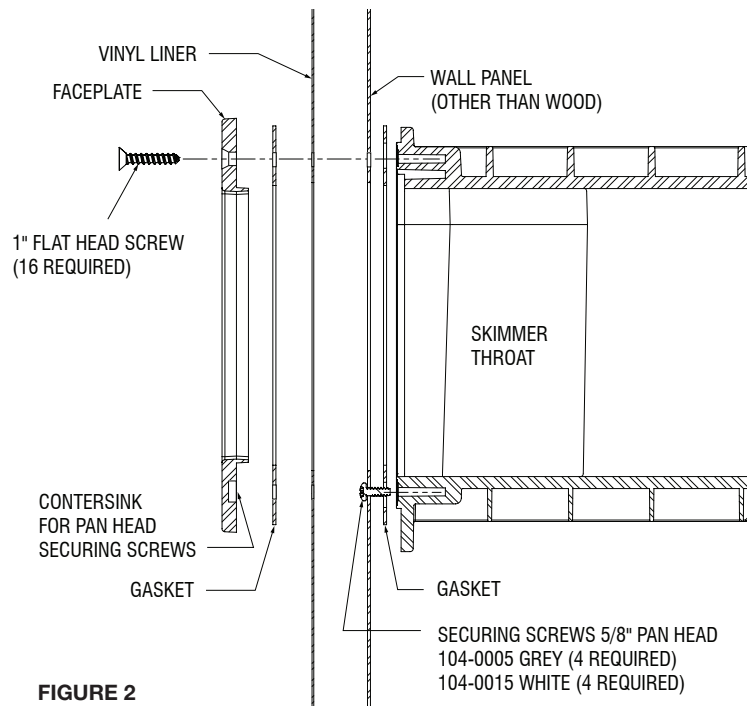

FIGURE 2
1. Drill and cut wall panel section to the specified dimensions (fig. 2).
5. Align the second gasket and the faceplate. Tightly fasten the skimmer face with the (16) 1" long flat head screws. If it is a vinyl liner pool, pierce the liner through the faceplate holes one at a time prior to inserting the screws. The screws must go through the faceplate, gasket, liner, wall panel, gasket, and into the skimmer face, strictly in this order.